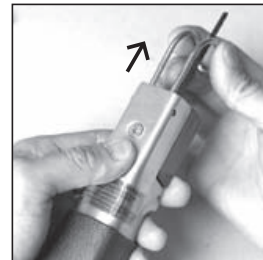

Figure 11
2. Pull out the blade guard with hand to reach the height required. (See Figure 11)